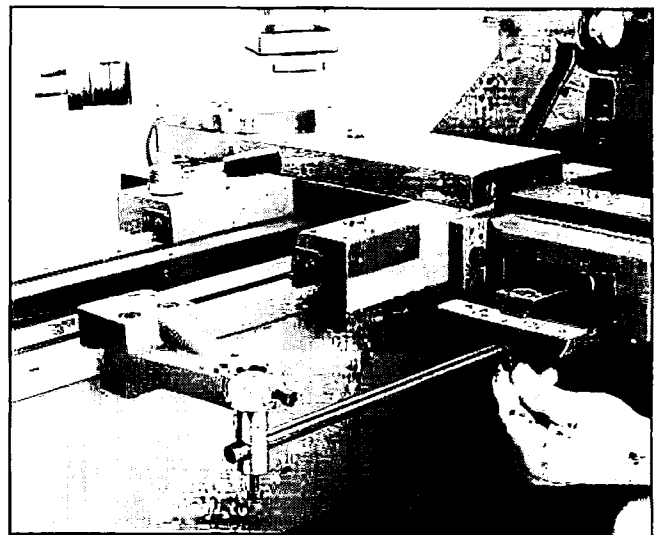

Figure 5. Attaching support rod to slide.
13. A support rod attaches the deadman to the taper attachment body. The rod attaches to the deadman by way of a hole in a vertical shaft. It is secured in the shaft with a cap screw. The vertical shaft can be adjusted up and down and is secured to the deadman with a cap screw. Loosen these cap screws. Position the rod as in **Figure 5** and secure to the bottom of the taper attachment with the cap screw provided.